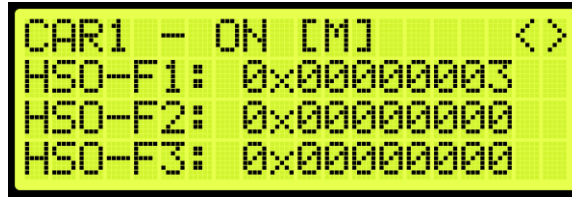

Figure 369: Front Hall Security Map Status
9. From the Front Hall Security Map Status (See Figure 369), press the right button.